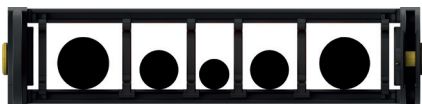

Fig. 4
4) Place cables/hoses symmetrically according to their dimensions and weight, placing the largest and heaviest externally and the smaller and lighter ones internally (Fig. 4)